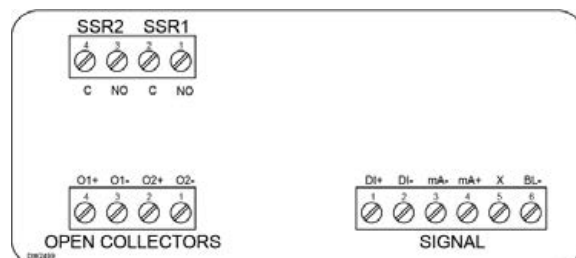
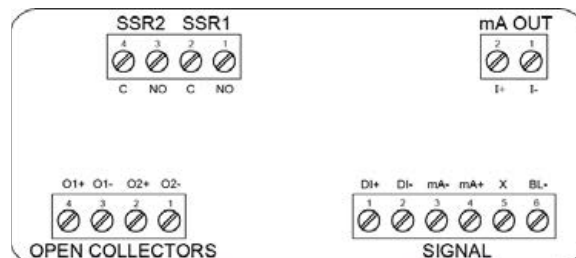

Figure 6. PD660#-L2N Connector Label
Figure 8. PD660#-L5N Connector Label
Relay connections are made to a four-terminal connector labeled SSR1 and SSR2 on *Figure 6*. *Connector Labeling for PD6600 with 2-Solid State Relays* and *Figure 8*. *Connector Labeling for PD6600 with 2 Solid State Relays & 4-20 mA Analog Output* on page 12. Each relay's C terminal is common only to the normally open (NO) contact of the corresponding relay.